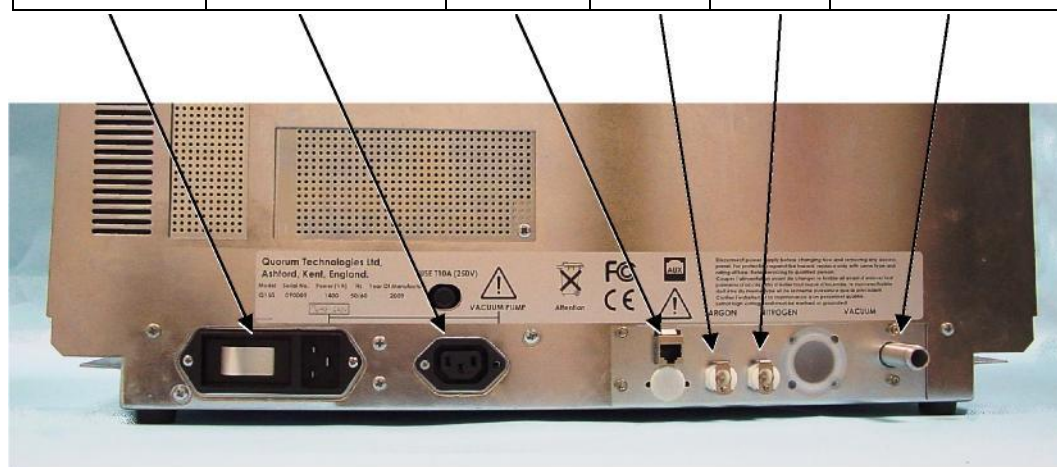

Figure 2-1. EMS150T Rear Panel
Figure 2-1 shows the location of connectors and switches on the rear panel of the EMS150T.
1. Connect a suitable argon supply at a regulated input of 0.3bar (4psi) to the quick connect Argon gas connector on the rear panel (see Figure 2-1).